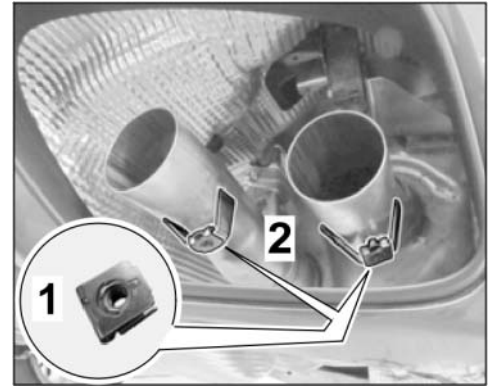

Figure 26
- 3.4.1 Install new speed nut (M6 x 19.5 x 18 – VW602 49, 2 x) on holders on exhaust pipes of new rear silencers (left/right ⇒ *Figure 26*).